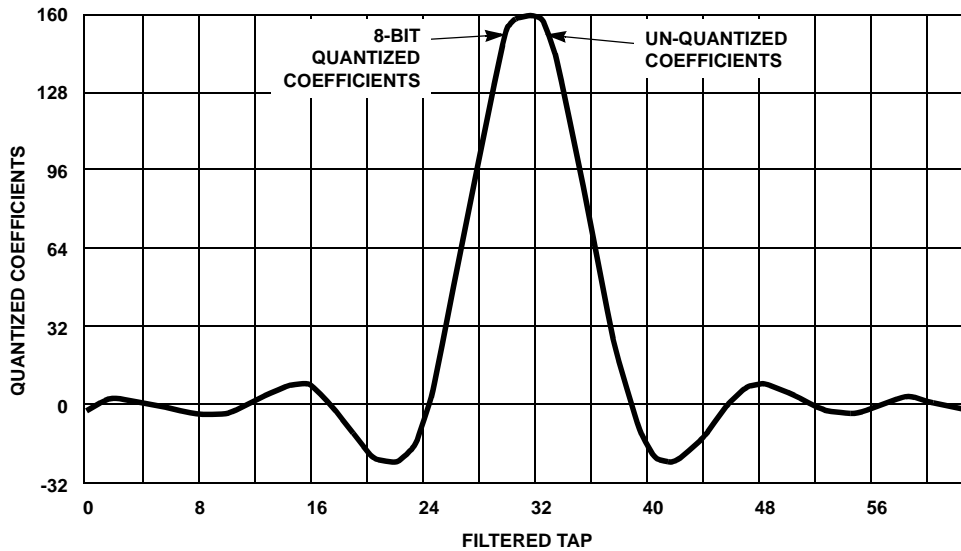
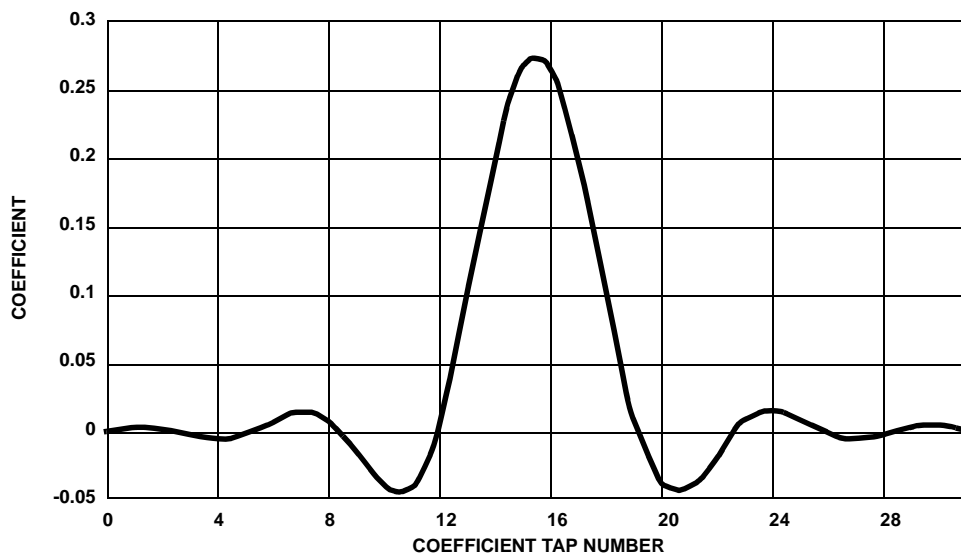

FIGURE 7. COEFFICIENTS FOR THE SQUARE ROOT OF RAISED COSINE $\alpha = 0.4$ FILTER
FIGURE 8. COEFFICIENTS FOR THE b128fir.cfg CONFIGURATION FILE FILTER: rrc4a4x.imp
The final field of the file name is the filter type. The options are RRC for Square Root of Raised Cosine $\alpha = 0.4$ filtering (for bandlimited applications), I&D for Integrate and Dump filtering (for unfiltered data applications), and FIR filtering (for creating application specific onboard serial FIR filters). Figure 7 details the coefficients of the RRC Cosine $\alpha = 0.4$ filter. The FIR selection implies that the DCL RCC and I&D filters are bypassed. In this case the file represents the coefficients for the FIR filter. Figure 8 details the coefficients for the FIR filter in example configuration file. Table 1 lists the configuration files provided as examples with the EVAL Kit and details the modulation format, data rate and filtering associated with each file.
When using the "fir" filter configuration, the FIR filter coefficient file that is used can be changed. Figure 8 illustrates that the Data Path/Modulation Menu Item (14) must be